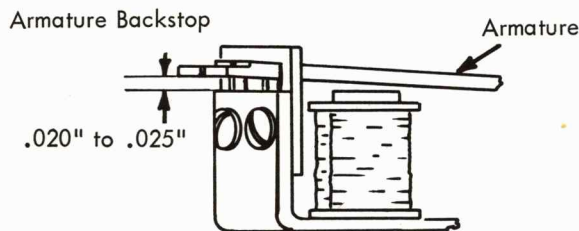

FIGURE 128.2 Armature Backstop
2. Armature Backstop (Late Style) (Fig. 128.2)